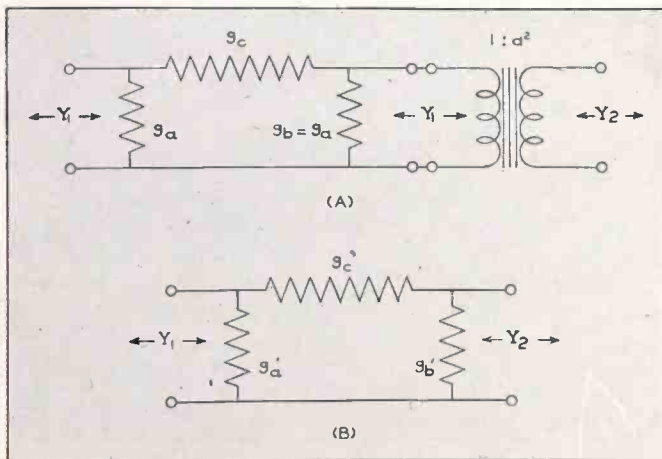

Fig. 3—Symmetrical attenuator and ideal transformer (A) and equivalent dissymmetrical attenuator, (B), with the same loss
Phase shift control may be added to the Fig. 1A circuit by putting in series with the contacts of the initiating switch a pair of inversely connected thyratrons as shown in Fig. 3. Control is applied to the grids of these two thyratrons so as to delay their firing during each half cycle. Thus each ignitron is delayed in firing until the associated thyatron starts to conduct. Two methods of controlling the thyatron grids suggest themselves. The simplest is to apply an alternating voltage to the grids of the thyratrons and vary its phase by means of a conventional phase-shift network. When grid vol-
A second method of phase controlling is shown in Fig. 4A. In this case a separate thyatron bias voltage is used and control of the thyratrons is effected by a peak voltage superimposed on the bias voltage. The peak voltage is shifted by the phase shift network to vary the firing point. On and off control of this combination can be obtained by means of a series contact, as in Fig. 3, or it can be controlled by changing the a-c bias with a bucking transformer as shown in Fig. 4A. The phase relations of the on and off conditions are shown in Fig. 4B. The phase shift system using a peaking transformer has the advantage of avoiding completely the transients that can exist on the first half cycle when the Fig. 3 circuit is used because the tubes can only fire when a peak is present. Thus, if the initiating switch is closed just after a peak the tube will not fire but will wait until the peak on the next half cycle. Timing may be off by a half cycle but no transients will be generated.
FIG. 3—(A) Contactor with simple phase control added. The amount of current passed to the welding machine depends upon the position of R_1 . (B) Phase relations of line voltage E , grid voltage E_g , and line current I for one position of R_1 .
The tests shown in Fig. 3 were made at the factory using a dummy transmission line in place of the high voltage power line. The top line of oscillogram 8610 shows the application of a 1000 cps tone as a substitute for speech. With this substitute, the functioning of the system is the same as when an operator speaks into the microphone. The second line shows that modulation is instantly applied to the modulator carrier amplifier. The third line shows the pulse delivered by the receiver blocker to the receiver carrier amplifier grids. The fourth line